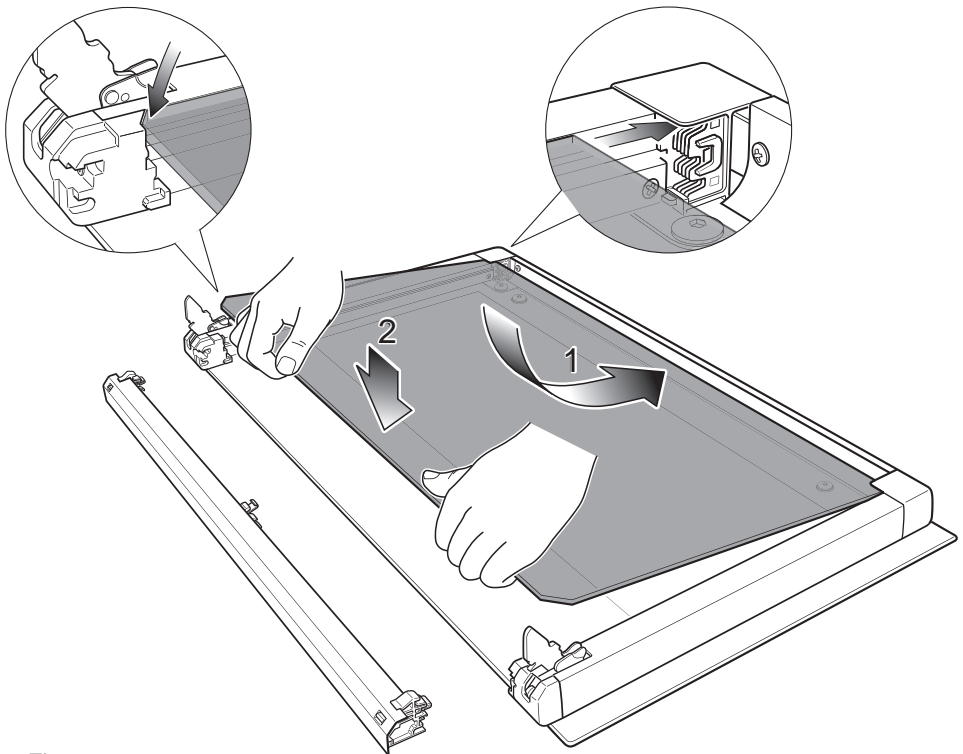

Fig. 9.15
1. Insert the inner glass pane in the uppermost pair of grooves and push it slightly (arrow 1 in figure 9.15).
2. Gently lower into place (arrow 2 in figure 9.15).